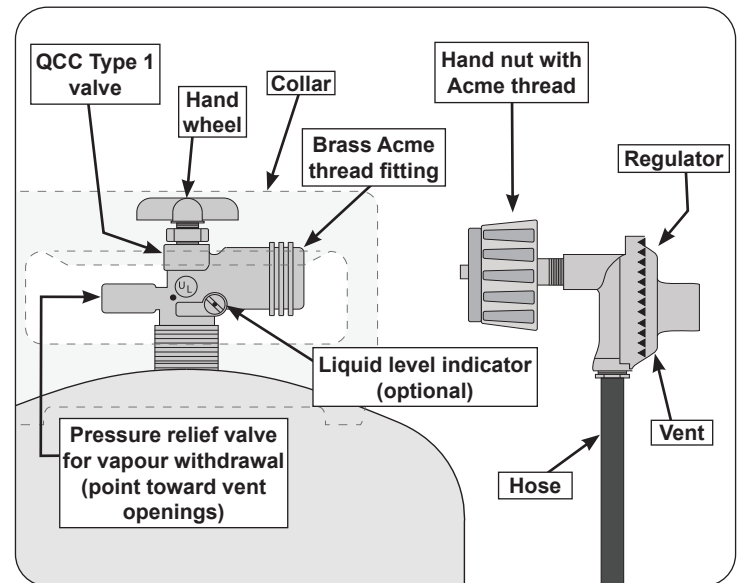

Fig. 9-1 Type I Acme thread coupler
- d. The cylinder used must include a collar to protect the cylinder valve. The cylinder supply system must be arranged for vapour withdrawal. See Fig. 9-1.
- e. When used with a cylinder, the gas supply system must be used with a pressure regulator. The pressure regulator and hose assembly (Fig. 9-1) supplied with this outdoor gas appliance (**select L.P. models only**) must be used. Original and replacement pressure regulator and hose assemblies must be those specified by the manufacturer for connection with a cylinder connecting device identified as Type I by the ANSI Z 21.58/CGA 1.6 and must comply with UL 144 as a part of the self-contained LP gas supply system (see PARTS LIST for ordering information).
**To disconnect:** Turn the hand nut counterclockwise until detached (Fig. 9-1).